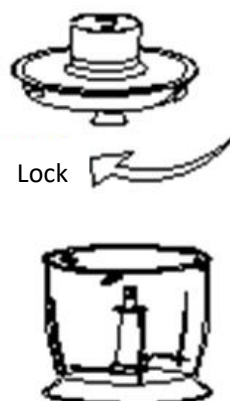

Fig. 2
4. Attach the lid onto the chopper bowl, make sure the tuber on the inside wall of bowl aligns with the groove of lid, then put down the lid and turn it in clockwise direction until it locks into position. (See Fig.2) To detach the lid, turn in adverse direction.